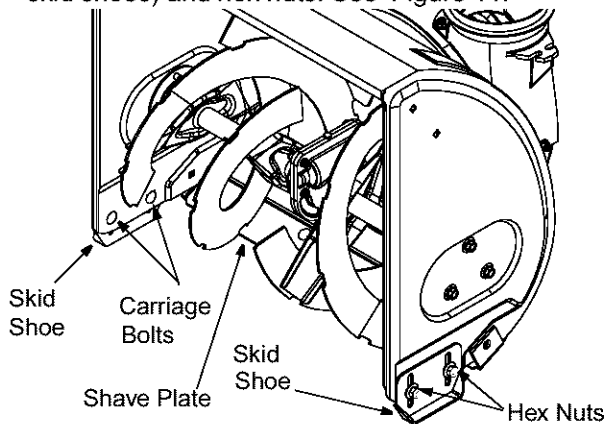

Figure 11
2. Reassemble new skid shoes with the four carriage bolts, cupped washers (cupped side goes against skid shoes) and hex nuts. See Figure 11.
3. To remove shave plate, remove the carriage bolts, cupped washers and hex nuts which attach it to the snow thrower housing. See Figure 11. Reassemble new shave plate, making sure heads of carriage